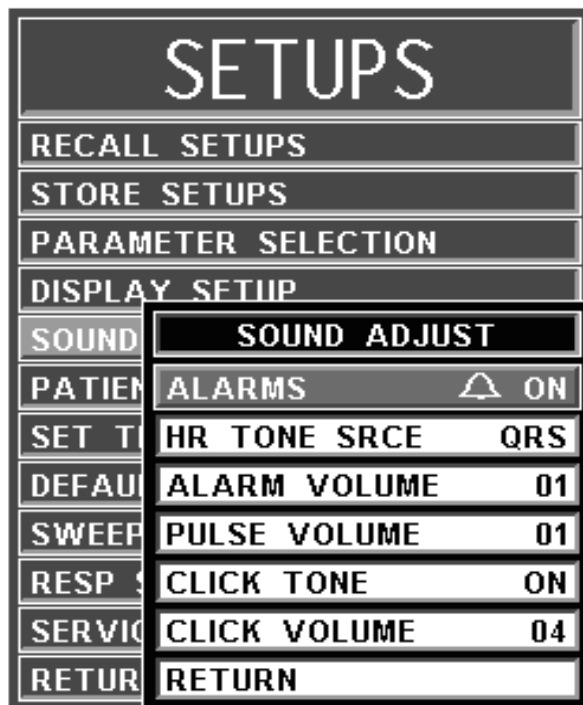

Figure 3-5. The SOUND ADJUST Menu
3.2.5 Sound Adjust. Selecting this menu option will bring up the **SOUND ADJUST** Menu (See **Figure 3-5**) which allows the user to switch the Alarm Tone ON and OFF, set the heart-rate tone source and set the volume for the different sounds the **3155A/3155MVS Monitor** produces. While in this menu, all real tones are disabled and the message “**REAL TONES DISABLED**” is displayed at the top of the screen. Note that only the sound is disabled and the violated alarms will still flash on the screen if the parameter's Alarm Limit is violated. *This menu has a time-out feature. If no action is taken for approximately 60 seconds, the monitor will automatically return to the Normal Screen.*